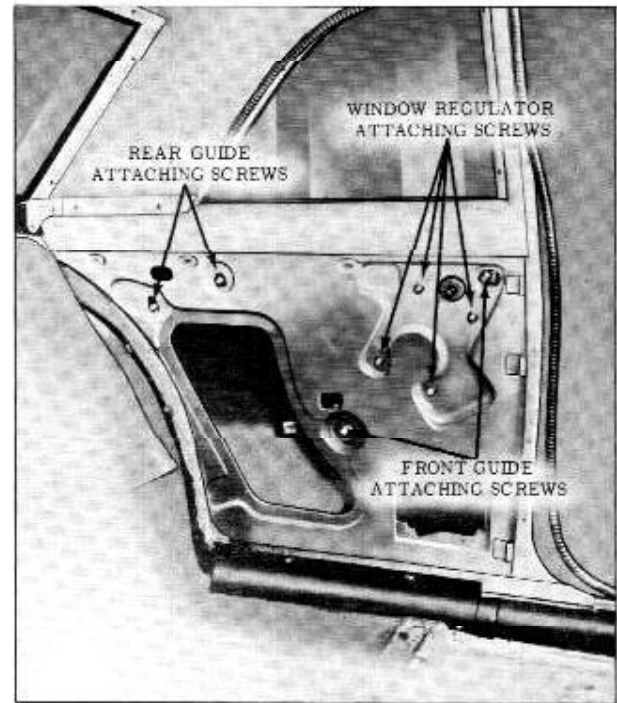

Fig. 15-22 Rear Quarter Hardware "17-27" Styles
2. Remove (2) most rearward screws from rear section of door sill plate. Disengage pinchweld finishing strip from beneath door sill plate and pinchweld flange to a point above belt line. (Fig. 15-22)
2. With window in up position remove rear quarter window rear guide attaching screws (Fig. 15-22) and remove rear guide.
1. Remove rear quarter trim assembly and loosen both front and rear guide attaching screws. (Fig. 15-22)
2. Loosen rear quarter window front guide upper attaching bolt. Remove window regulator attaching bolts (Fig. 15-22) and remove regulator through access hole.
2. Remove rear quarter window front guide attaching bolts. (Fig. 15-22) Disengage guide from roller on window lower sash channel and remove guide through access hole.
2. Remove rear quarter window rear guide attaching bolts. (Fig. 15-22) Disengage guide from roller on window lower sash channel cam and remove guide through access hole.